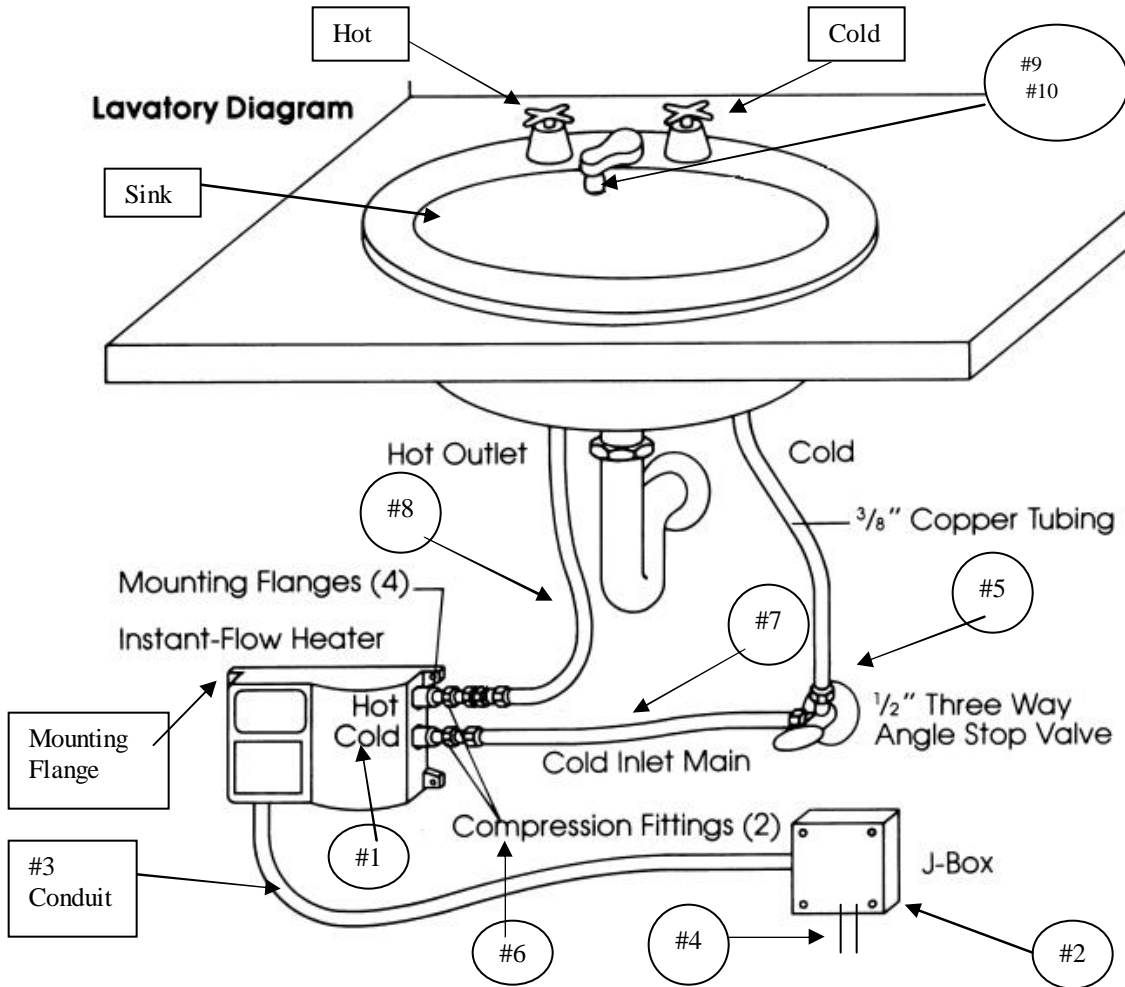

FIGURE 1 HEATER INSTALLATION
2. Mount unit horizontally against the wall so the silver label reads correctly (See Fig. 1). Mount with four screws through the flanges located on each corner using molly anchors or fasteners.
3. Connect plumbing. Use ¼" tapered national pipe thread at cold water inlet and hot water outlet (See Fig. 1). Use compression fittings supplied for ease of installation. Do not apply heat to these fittings.